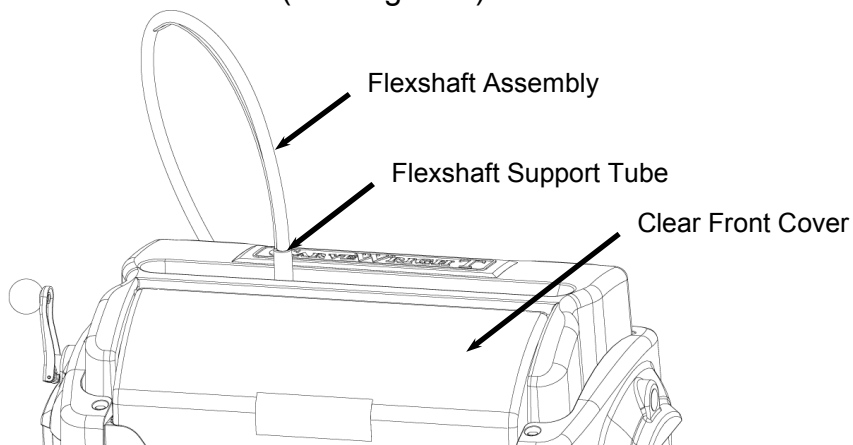

FIGURE 2: EXTERIOR VIEW OF THE FLEXSHAFT AND HEAD COVERS
2. **Ready the flexshaft for removal from the Z-truck:** Move the Z-truck to the very top of its travel (until it reaches the hard stop) so that the flexshaft support tube protrudes from the head cover (See Figure 2).